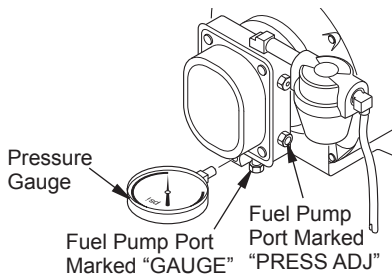

Figure 11 - Adjusting Pump Pressure
2. Install accessory pressure gauge (part number 110380-01) to fuel pump port marked "GAUGE" (see Figure 11).
4. Adjust pressure. Use small flat blade screwdriver to turn slotted screw at fuel pump pressure adjusting port. Turn screw clockwise to increase pressure. Turn screw counterclockwise to decrease pressure. See specifications in Figure 11 for correct pressure for each model.